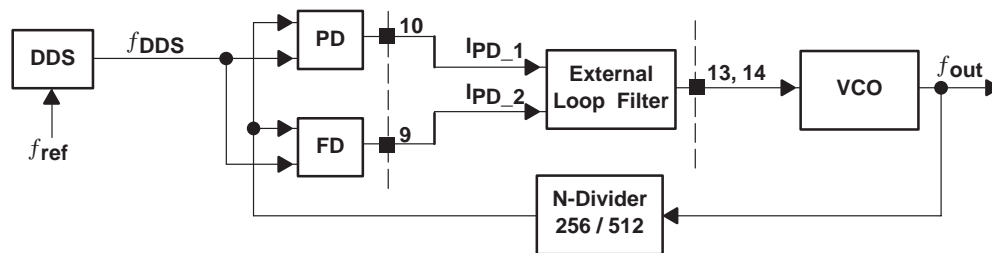

Figure 18. Basic PLL Structure
The phase-locked loop (PLL) of the TRF6900 consists of a phase detector (PD) and a frequency acquisition aid (FD), two charge pumps, an external loop filter, a voltage controlled oscillator (VCO), and a programmable fixed prescaler (N-divider) in the feedback loop (see Figure 18).